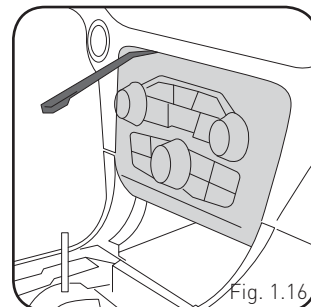

Fig. 1.16
14. Using a panel tool, pry outward on the climate controls to release the four clips securing it. Then, disconnect the wiring harness from the back. (Fig. 1.16)